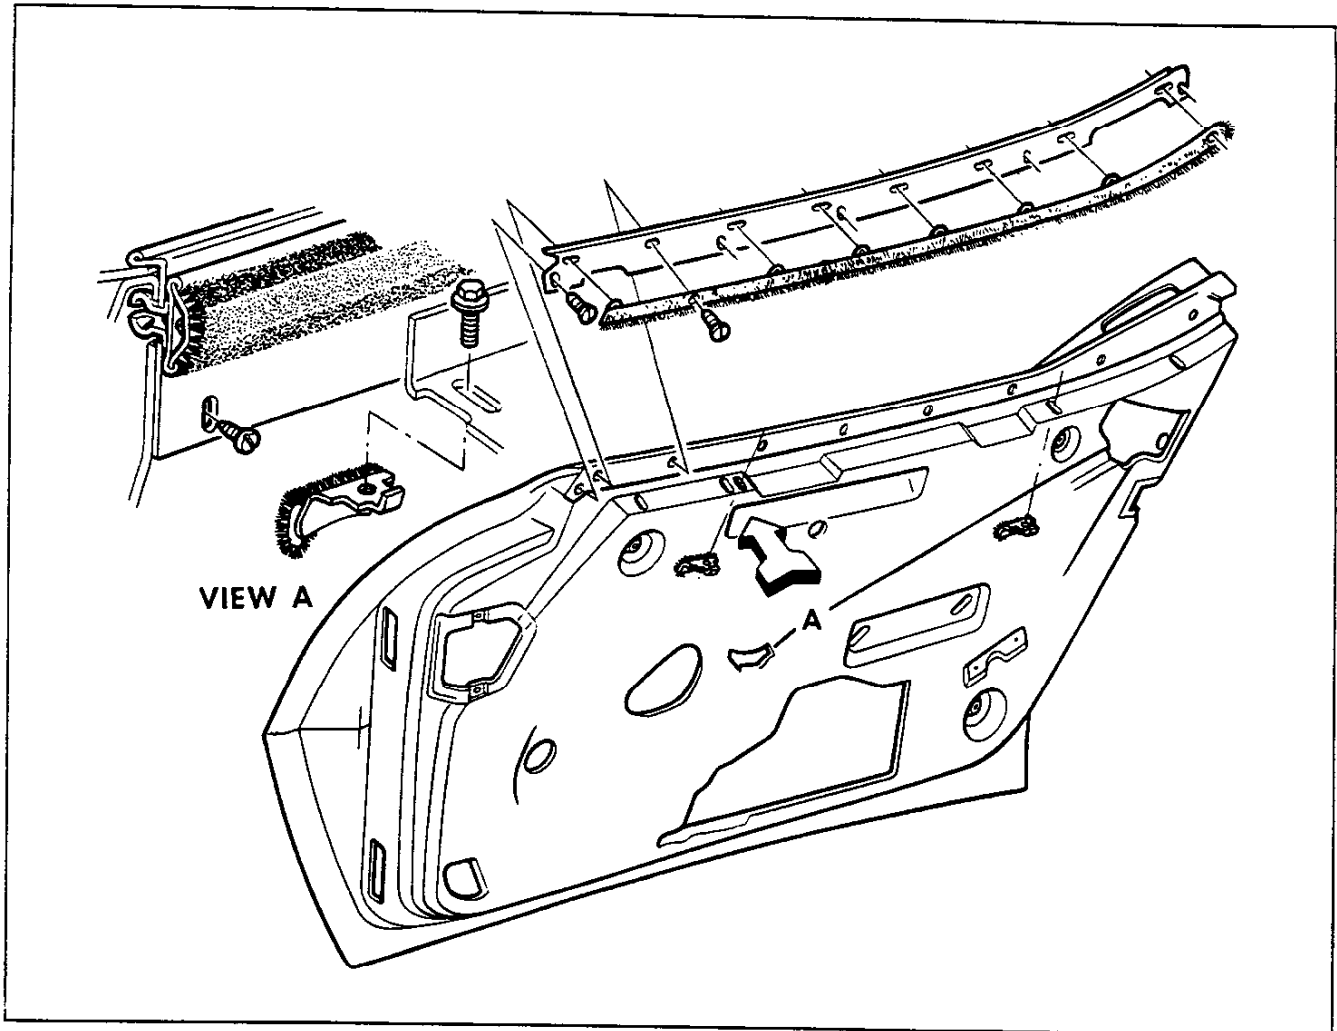

Fig. 23—Window Glass Seals and Molding
**WINDOW OUTER SEAL ASSEMBLY (Fig. 23)**
3. Remove two (2) screws one located at each end of seal (fig. 23).
4. Carefully pry out at six (6) retaining clips.
**WINDOW ANTI-RATTLE (Fig. 23)**